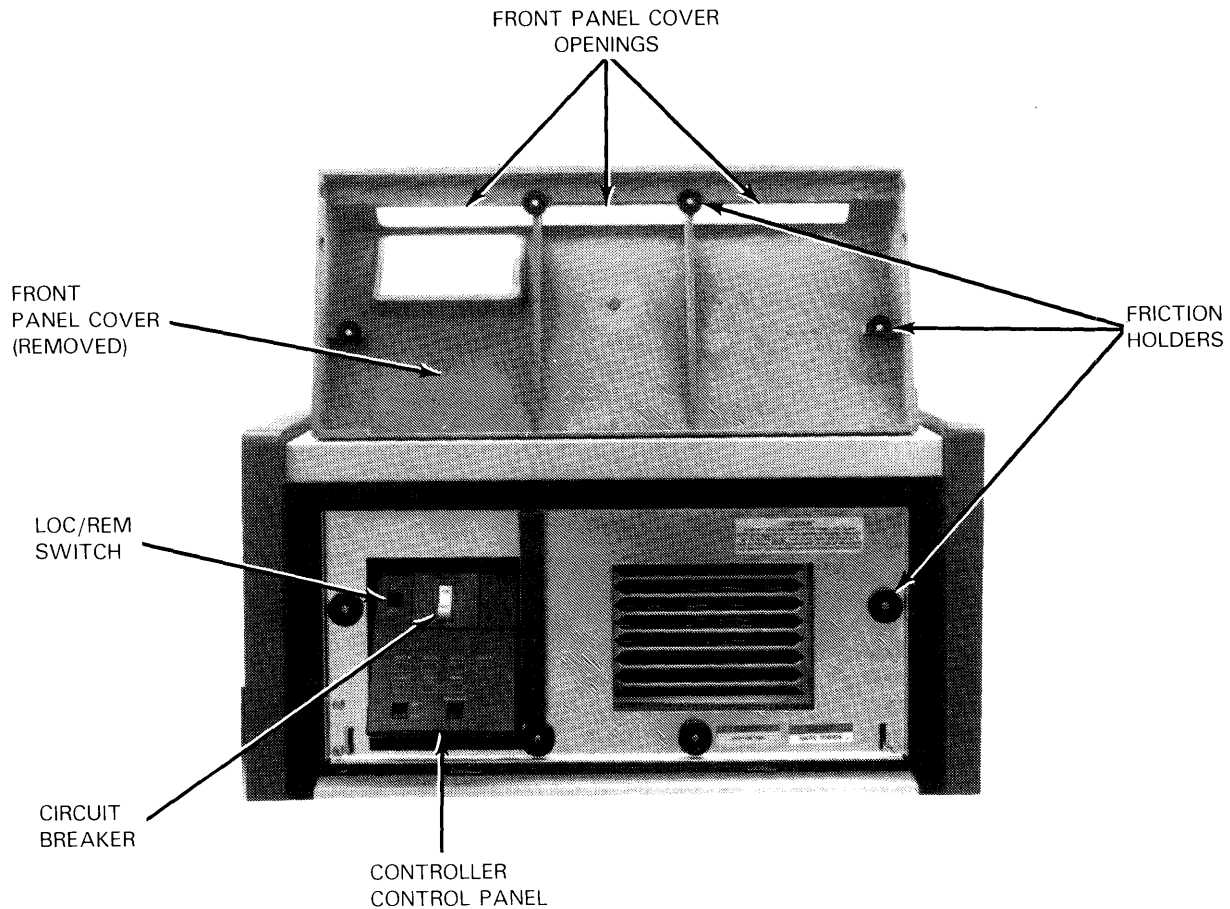

Figure 3-1. LOC/REM Switch on Controller Control Panel
1. Remove the controller front panel cover by pulling it by its access openings on the bottom (Figure 3-1).